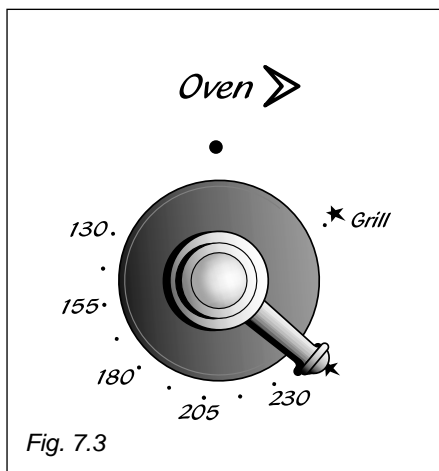

Fig. 7.3
- 2) Lightly press and turn the thermostat knob anti-clockwise to max position (• ★ fig. 7.3).